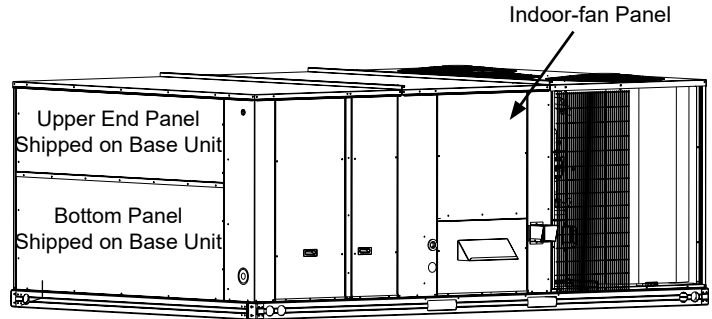

Fig. 1 - Upper and Bottom Panel on End of Unit
- Remove the upper panel and bottom panel (provided with the HVAC unit) on the end of the unit to expose the return section. (See Fig. 1.) Save the screws for use later when replacing the panel. The panels can be discarded.
3. Remove the upper panel and bottom panel (*provided with the HVAC unit*). On the end of the unit to expose the return section. (**See Fig. 1.**) Save the screws for use later when replacing the panel. The panels can be discarded.